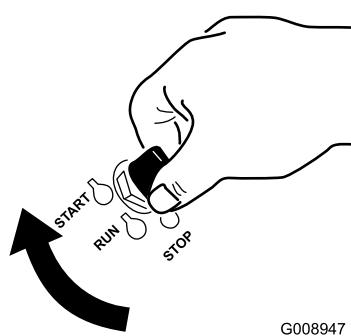

Figure 13
7. Turn the ignition key to the Start position (Figure 13). When the engine starts, release the key.